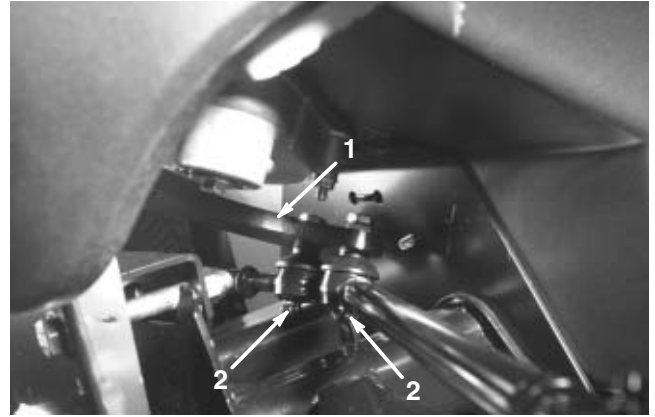
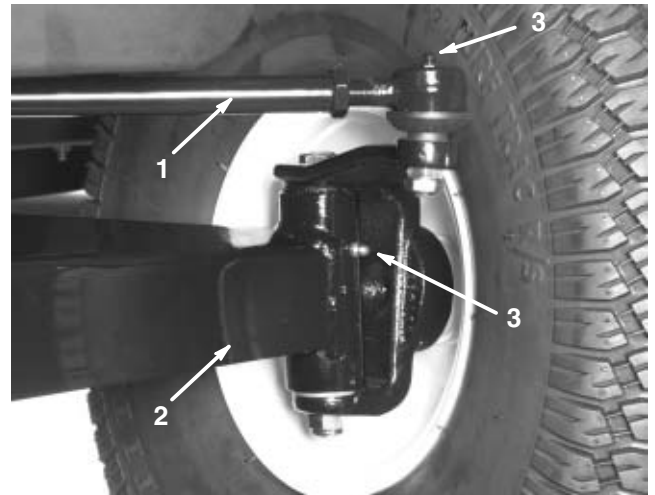

Figure 3
Figure 4
1. Each tie rod has a grease fitting on each ball joint, the one that secures the tie rod to the Pitman arm (Fig 3) and the joint that secures the tie rod to the front wheel spindle (Fig 4).
2. The A–arm has a grease fitting for the king pin (Fig 4).